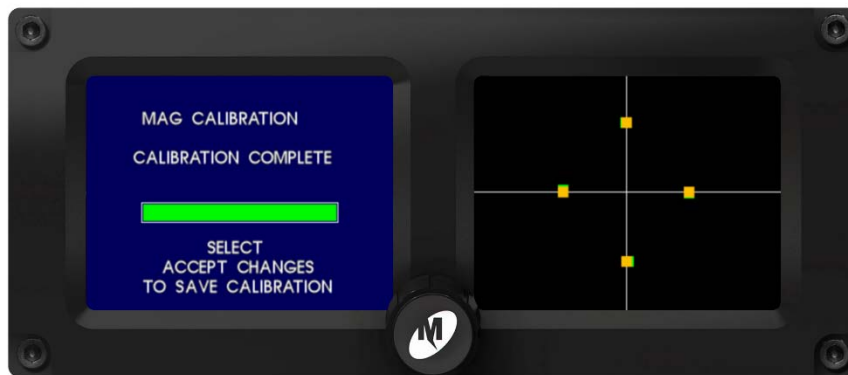

Figure 4.57
- 5. After calibration is successful, the yellow dots should line up on each axis. The green dots should be close or entirely covered by the yellow dots. (Figure 4.57)